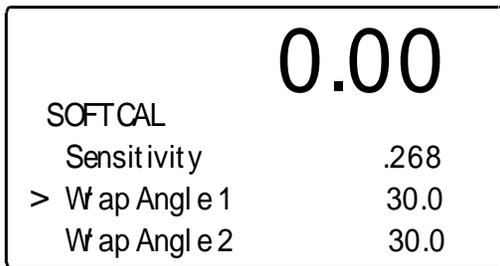

FIG. 2-24 SOFT CALIBRATION MENU/ENTERING WRAP ANGLE 1
- Step 12. Press on the “-” button until the cursor is in front of “Wrap Angle 1”. (See Fig. 2-24)